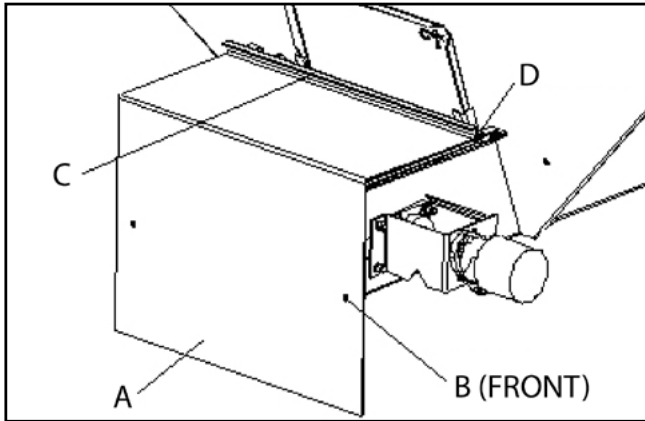

Figure 20A - Dual Conveyor Cover (Style I MULTAPPLIER)
Style I MULTAPPLIER - Remove rear plate of Material Divider. Place Cover (A) on MULTAPPLIER sills as shown in Figure 20A and insert hair pins (B) through cover pins. Position Hold-down (C) over Cover and attach with supplied hardware (D). Reinstall rear plate of Material Divider.